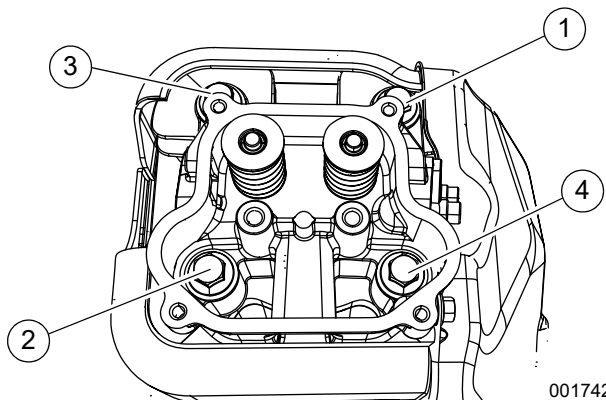

Figure 6-14. Head Bolt Tightening Sequence
1. See Figure 6-14. Install intake (B) and exhaust (A) valves through the correct valve guides in the cylinder head.
5. See Figure 6-14. Install cylinder head bolts and tighten them in the sequence shown.